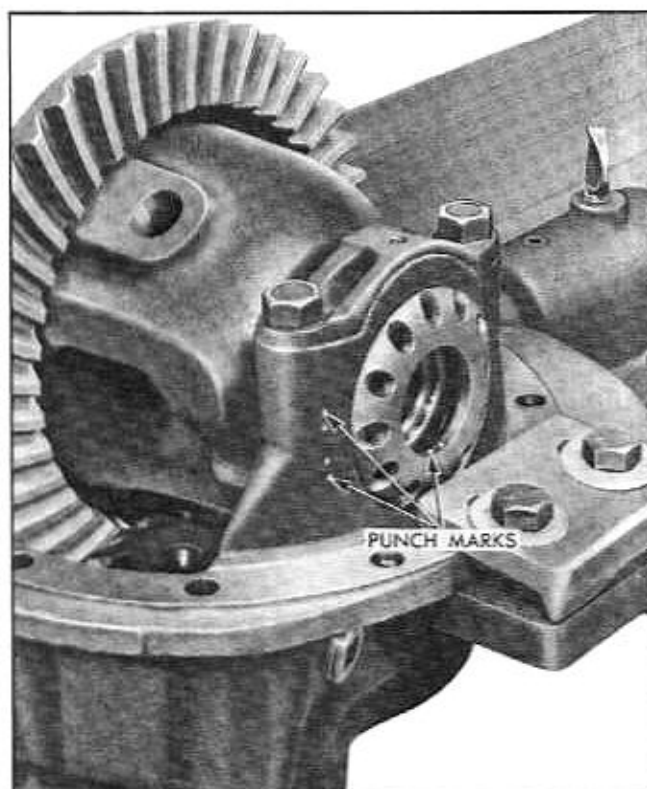

Fig. 4-26 Bearing Cap and Adjusting Nut Marked For Side Location
1. Mark bearing caps and adjusting nuts by some suitable method such as punch marks to distinguish right from left so they can be replaced on correct sides (Fig. 4-26).
1. If not previously done, mark right and left bearing caps and adjusting nuts (Fig. 4-26); remove adjusting nut locks.